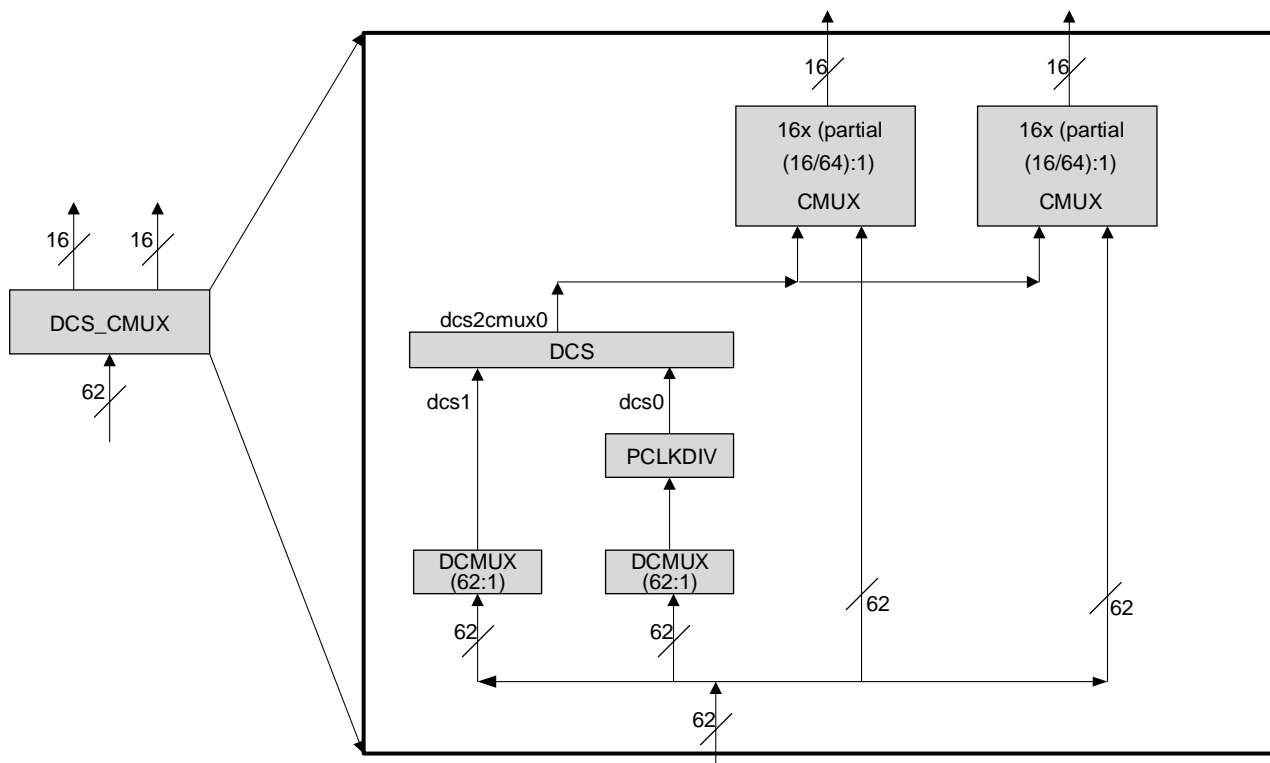

Figure 2.9. DCS_CMUX Diagram
The PCLKDIV supports $\div 2$, $\div 4$, $\div 8$, $\div 16$, $\div 32$, $\div 64$, $\div 128$, and $\div 1$ (bypass) operation. The PCLKDIV is fed from a DCSMUX within the DCS_CMUX block. The clock divider output drives one input of the DCS Dynamic Clock Select within the DSC_CMUX block. The Reset (RST) control signal is asynchronous and forces all outputs to low. The divider output starts at next cycle after the reset is synchronously released. The PCLKDIV is shown in context in Figure 2.9.
All clock sources are selected and combined for primary clock routing through the Dynamic Clock Selector Center Multiplexer logic (DCS_CMUX). There are one (1) or two (2) DCS_CMUX blocks per device. Each DCS_CMUX block contains two DCSMUX blocks, one PCLKDIV, one DCS block, and 1 or 2 CMUX blocks. See Figure 2.9 for a representative DCS_CMUX block diagram.